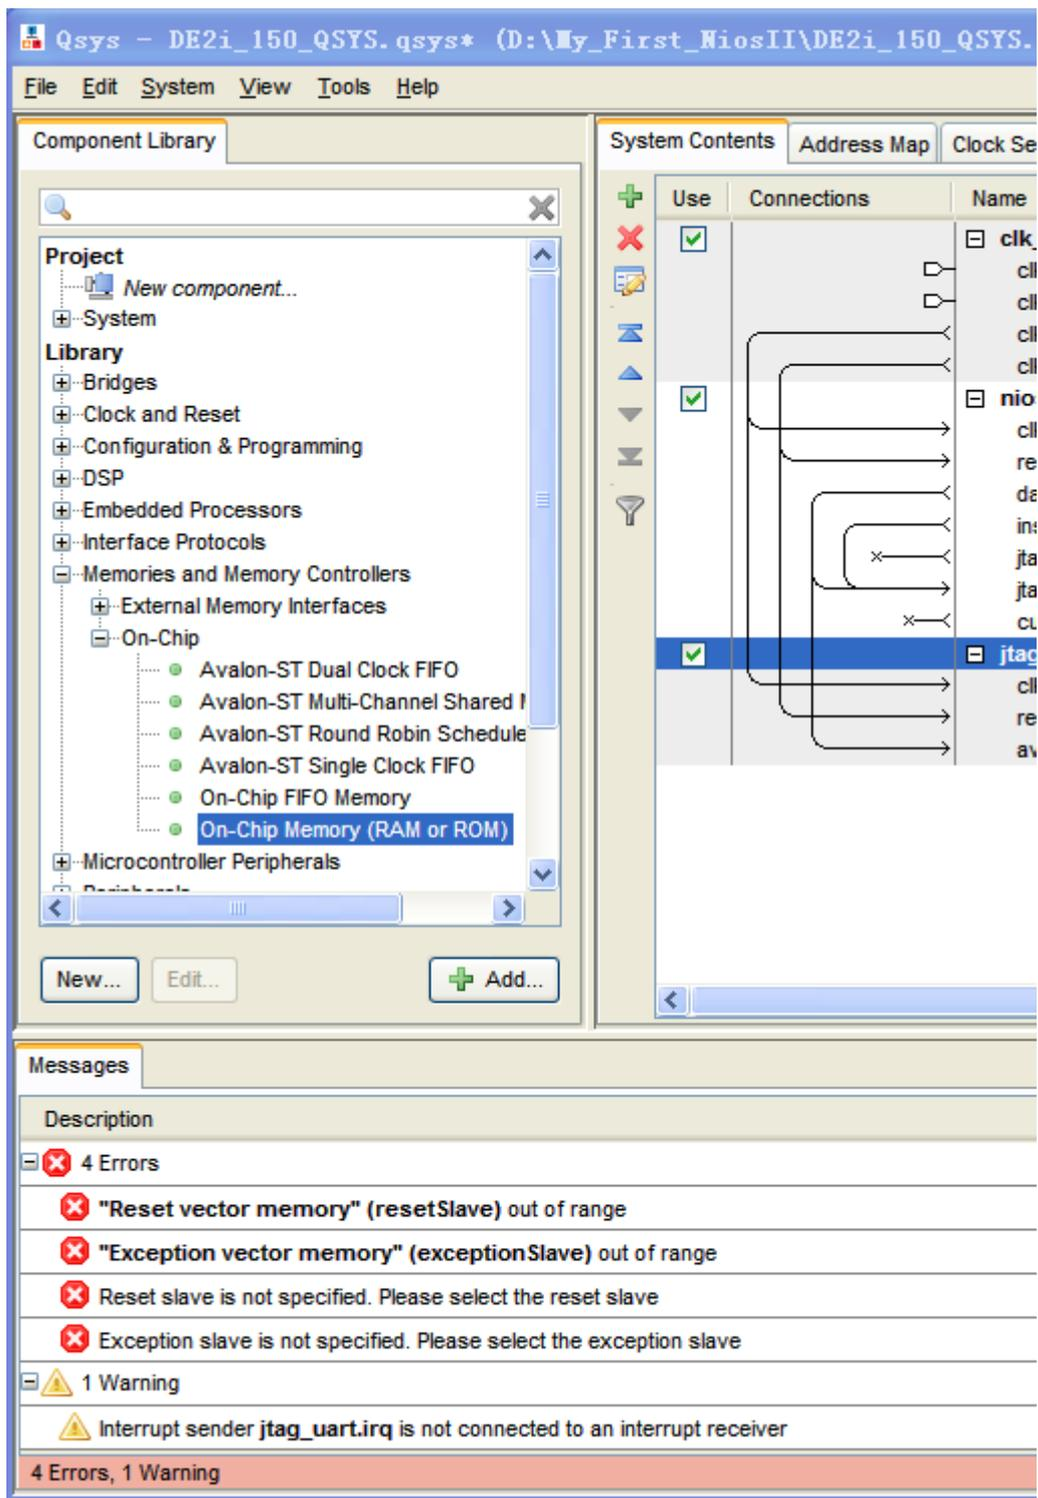
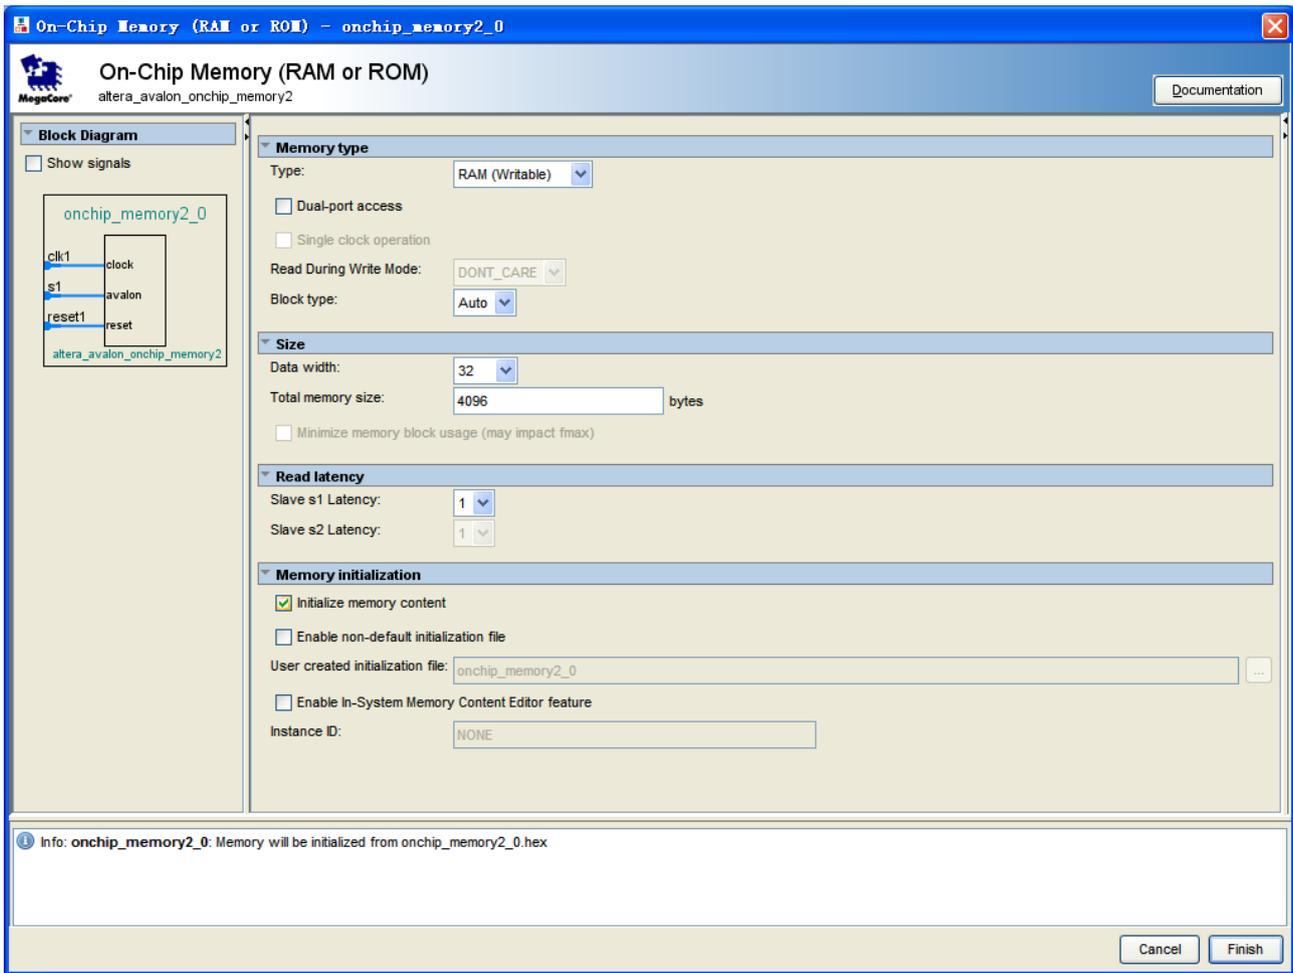

Figure 1-26 Add On-Chip Memory
Figure 1-27 On-Chip Memory Box
16. Choose **Library > Memories and Memory Controllers > On-Chip > On-Chip Memory (RAM or ROM)** to open wizard of adding On-Chip memory. See Figure 1-26 and Figure 1-27.